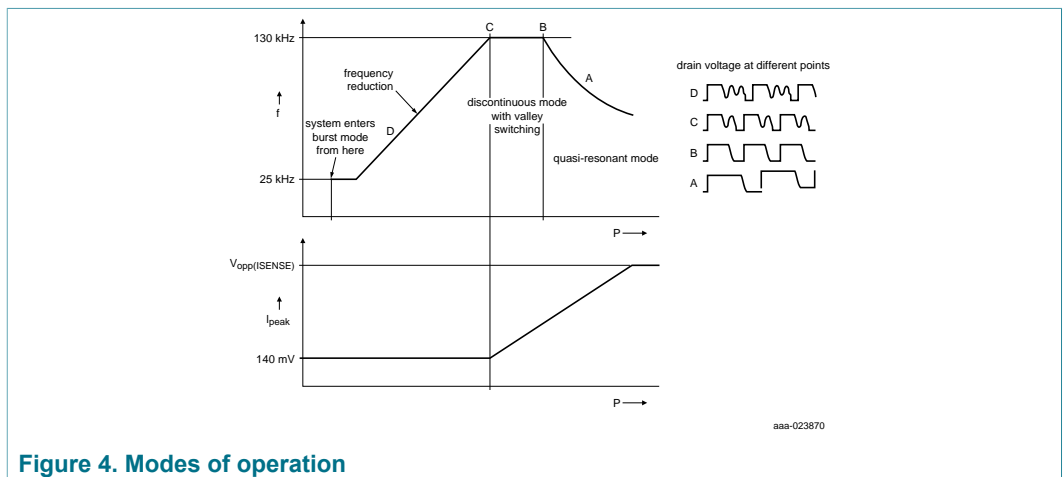

Figure 4. Modes of operation
The TEA19363T operates primarily in fixed frequency DCM mode. At low powers, it enters burst mode. At high powers, it can operate in Quasi-Resonance (QR) mode (see Figure 4). The auxiliary winding of the flyback transformer provides demagnetization information.